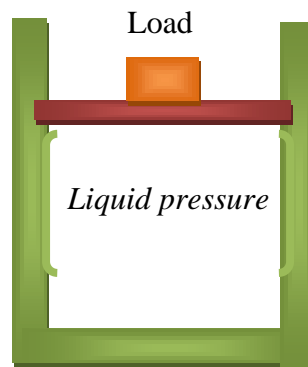

Figure Q2(C): Container of liquid
- b) State two (2) important principles about pressure described by Pascal's Law. (6 marks)
- c) Refer to figure Q2, shows a container of liquid with a movable piston supporting a load. Determine the pressure in the liquid under the piston if the total weight of the piston and the load 500N and the area of the piston is 1500cm². Final answer in MPa